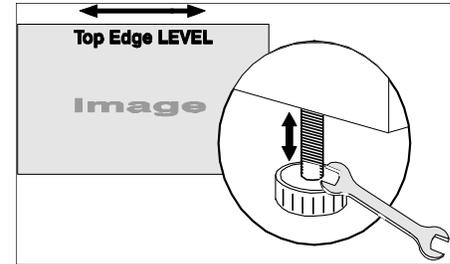

Figure 2-33 Level the TOP Edge
4. **RE-CHECK SIDE-TO-SIDE LEVELING:** With a good test pattern on screen, double-check projector leveling (refer to Section 2.3 Projector Position and Mounting) so that the **top edge** of the image is parallel to the top edge of the screen. See Figure 2-33.